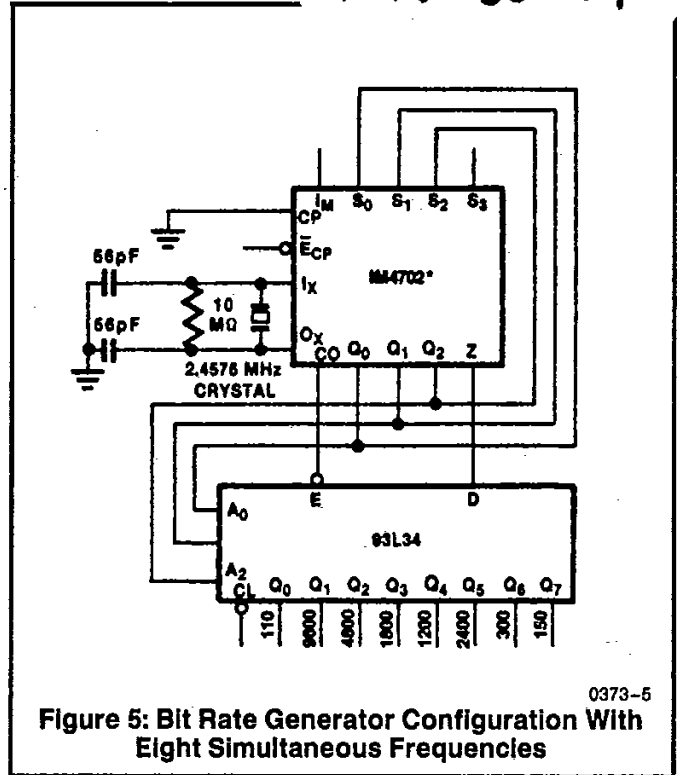

Figure 5: Bit Rate Generator Configuration With Eight Simultaneous Frequencies
Figure 5 shows a simple scheme that generates eight bit rates on eight output lines, using one IM4702/12 and one 93L34 Bit Addressable Latch. This and the following applications take advantage of the built-in scan counter (prescaler) outputs. As shown in the block diagram, these outputs (Q0 to Q2) go through a complete sequence of eight states for every half-period of the highest output frequency (9600 Baud). Feeding these Scan Counter Outputs back to the Select inputs of the multiplexer causes the IM4702/12 to sequentially interrogate the state of eight different frequency signals. The 93L34 Bit Addressable Latch, addressed by the same Scan Counter Outputs, reconverts the multiplexed single Output (Z) into eight parallel output frequency signals. In the simple scheme of Figure 5, input S3 is left open (HIGH) and the following bit rates are generated: